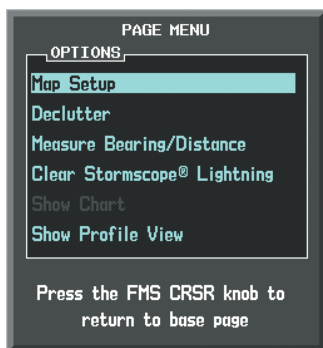

Figure 6-71 Navigation Map Page Menu
- 3) With 'Map Setup' highlighted, press the **ENT** Key (Figure 6-71).